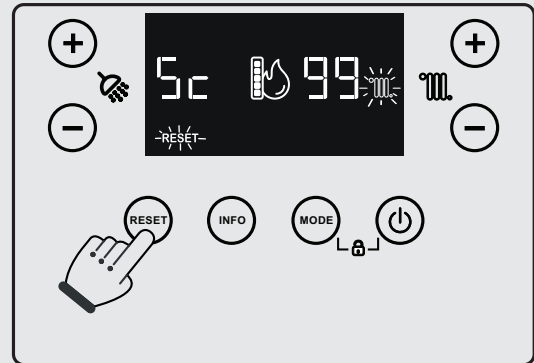

Fig. 6.2
2. Loosen the gas inlet pressure test point screw on the gas valve (see Fig. 6.2) and purge in accordance with BS 6891.
Chimney Sweep Mode - See Fig. 6.2.